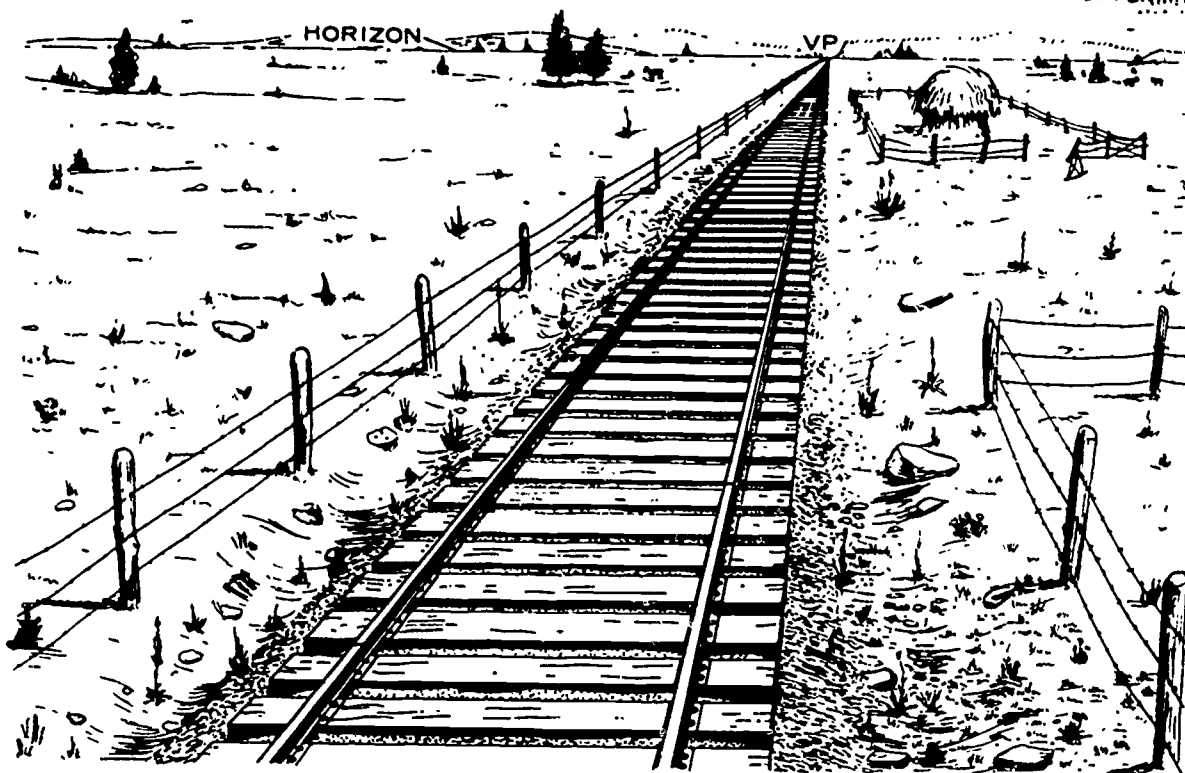

Figure 4-99. Vanishing point and horizon.
of a train, you might see a scene something like the one in figure 4-99. Why do some people have difficulty drawing such a scene? It is probably because they do not understand the principles of perspective on which such a drawing is based. If they draw a line slightly out of perspective, they do not know how to make it look right. By discussing how to make the illustration accurately reproduce what you might see, we can introduce you to the principles, terms, and definitions of perspective drawing. Before you can use the language of perspective, you must learn these fundamentals.
**Perspective Principles and Nomenclature.** One of the most important lines of perspective drawing is the *horizon*. It may be a visible line (as shown in fig. 4-99) that represents the actual horizon and the eye level of the observer, or it may be imaginary and not show at all. When the horizon does not
show in the final picture, an imaginary horizon is used to establish both the eye level of the observer and the vanishing point (VP). The *vanishing point* is that point on the horizon toward which all lines representing parallel horizontal edges converge. Thus, in figure 4-99 the lines representing the rails and fences, which are parallel horizontal edges of the objects shown in the picture, converge to the single point, VP. Notice in the scene that only the horizontal lines that are not parallel to the picture plane (represented by the rectangular outline) vanish at VP. The lines representing the fence that runs parallel to the picture plane do not converge and are therefore drawn as parallel horizontal lines.